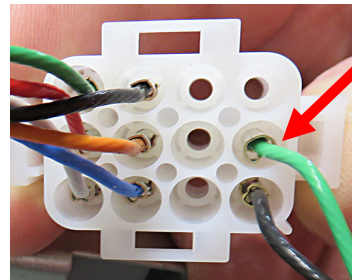

Figure 20
22. Insert the green wire into Pin 2 (see Figure 20).